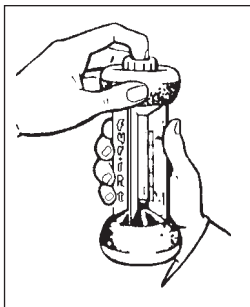

Figure 1
## 1.0 DESCRIPTION (Refer to Figure 1)
1. Hold upright (Fig. 1) and away from face. Depress Plunger Valve (momentarily) to vent FYRITE, and release.